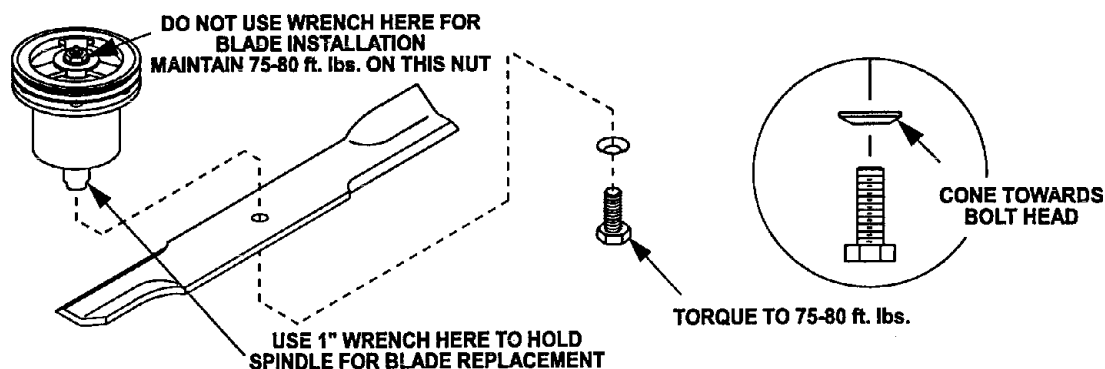

FIG. 4
- g) Re-install the blades (if they were removed) and torque blade bolts to 75-80 ft.lbs. Be sure the spring disk washer cone is installed toward the bolt head (See Figure 4).